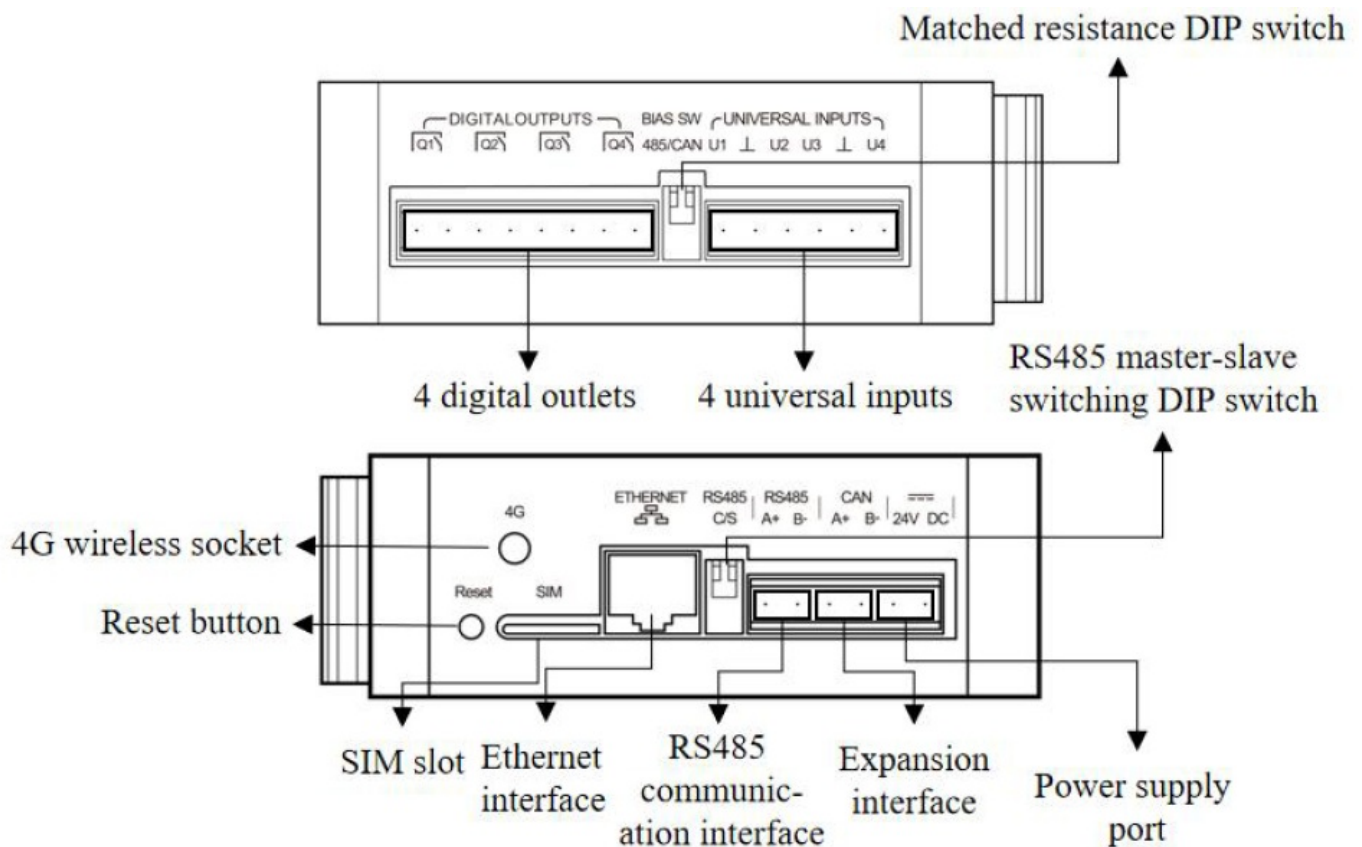

Figure 3.1 Edge Controller Interface Diagram
- Button description (see Figure 3.1 for specific positions)